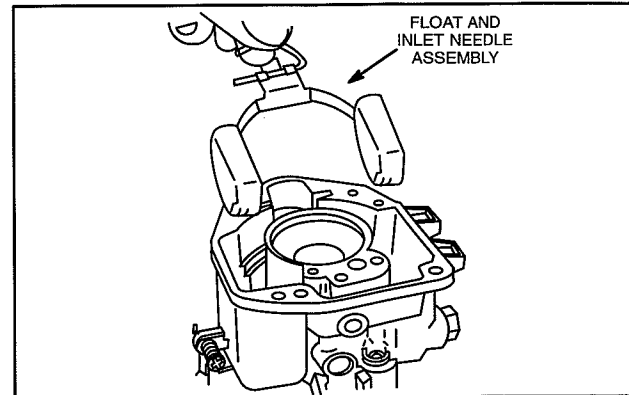

Fig. 93 – Install Float
13. Assemble inlet needle to float and install float assembly, Fig. 93.